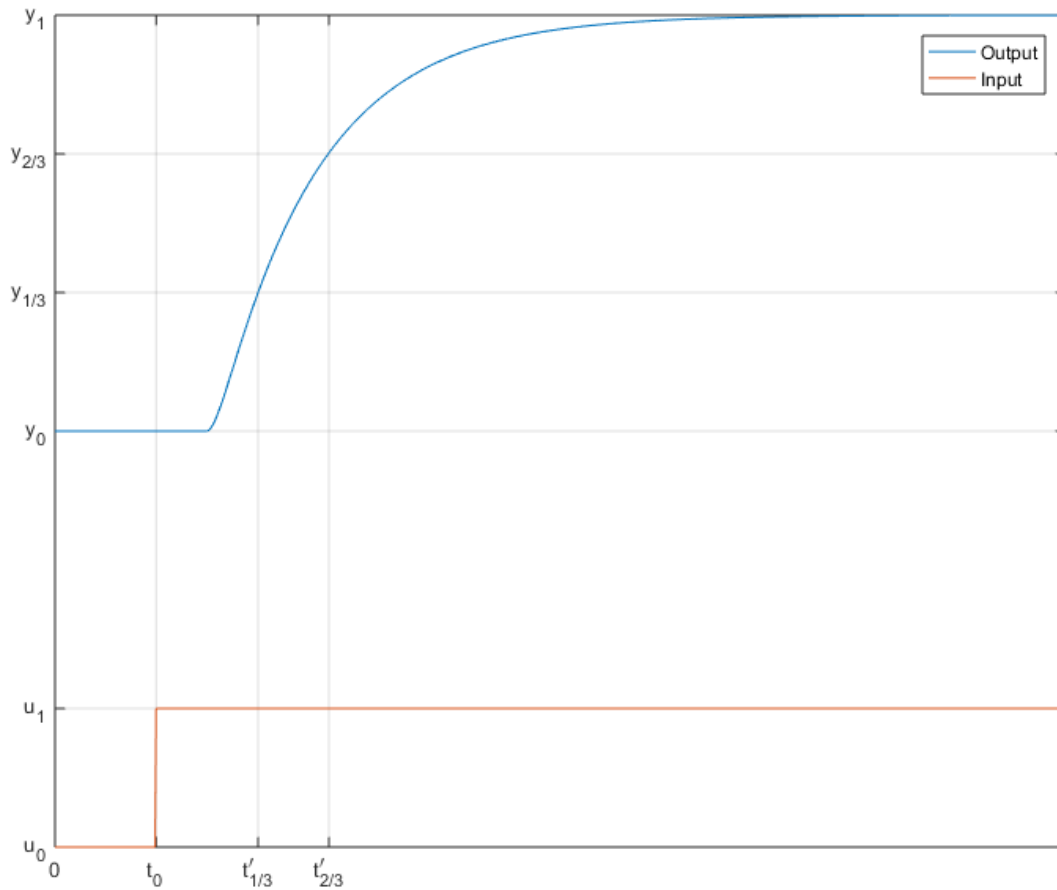

Figure 3
- (a) Consider the step response of a bump test shown in Fig. 3. One way that you can obtain the FOPDT parameters would be to draw a tangent line at the inflection point (that is, the point where the step response has the highest slope), and intersect it with the y_0 line to find θ_p . Then, find the time of $0.632\Delta y = (1 - e^{-1})\Delta y$, and, from the results of the two, find T_p . Interested readers are encouraged to have a look at **this video** giving the explanations of these steps and **here** to see how to achieve this programmatically. However, this would either require you to draw the tangent line rudimentarily or be prone to errors due to spikes caused by noise. Instead, finding a mathematical expression for the time constant and the dead time may be more beneficial. To achieve this, let $\Delta u = u_1 - u_0$ and $\Delta y = y_1 - y_0$. Also let $y_{1/3} = y_0 + \Delta y/3$ and $y_{2/3} = y_0 + 2\Delta y/3$. You are also given that the response of $y(t)$ is of the following form, where t_0 is the input step time and $u'(\cdot)$ is the unit step function. Rearrange this equation to find an expression for t where $t > t_0 + \theta_p$, and then find $t_{1/3}$ & $t_{2/3}$ (corresponding to $y_{1/3}$ & $y_{2/3}$, respectively). Then, rearrange these results to find T_p and θ_p . Using these results and shifting the plots as $t_0 = 0$, show that the formulae given for them in your lectures are valid.